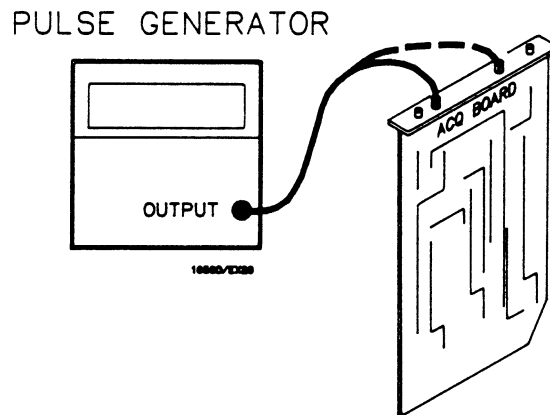

Figure 4-30. HF Compensation Adjustment Equipment Hookup
- a. Connect fast rise time pulse generator to INPUT 1 as shown in figure 4-30.